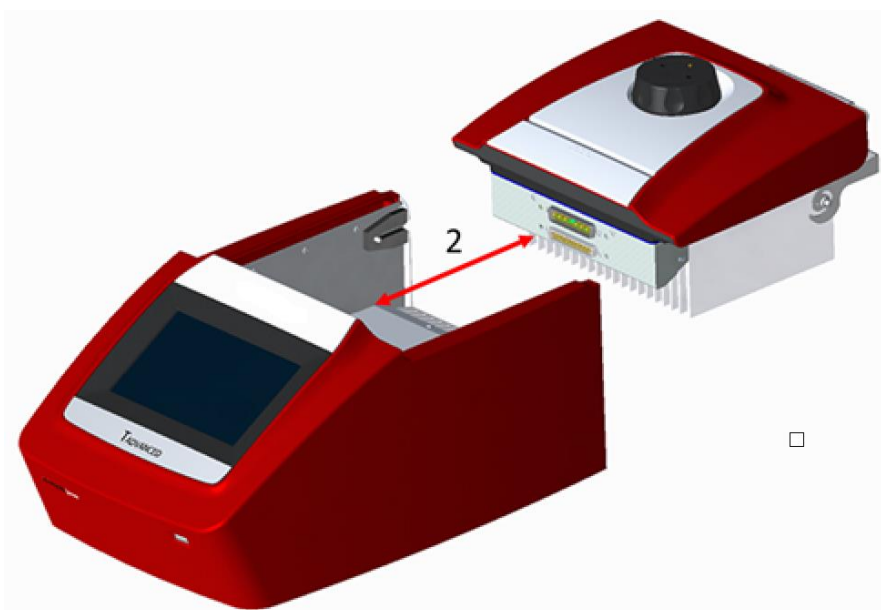

Fig. 5 Quick block exchange
2. Lift release lever on the backside (1 in Fig. 5) then pull block slowly to the back (2).
3. Insert the new block module carefully from the back in the base unit (2) until the plugs at the front of the module are in contact with the socket inside the instrument.
4. Then carefully push down the release lever (1).